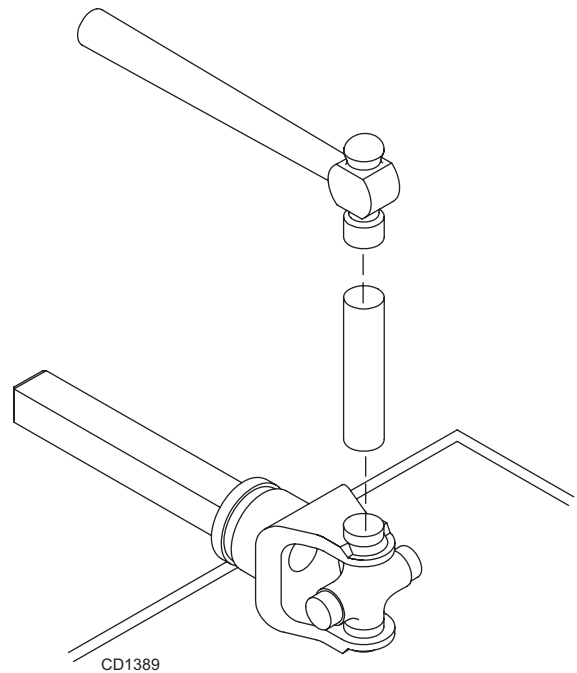

Figure 30
3. Seat cups by placing a drift or socket (slightly smaller than the cup) on cup and rap with a hammer. See Figure 30. Install snap ring and repeat on opposite cup.